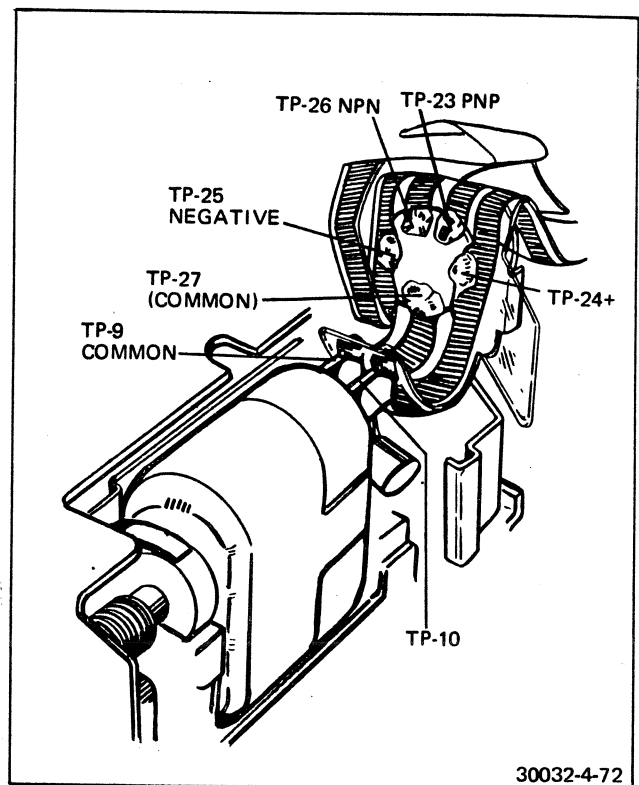

FIGURE 4-72 MCC TO MOTOR CONNECTIONS
14. Locate the flex circuit extension that reaches the two motor contacts, Figure 4-72. Using tweezers, press the flex circuit over the motor contacts until the contacts protrude through the flex circuit. If this step is performed correctly, the flex circuit will be held securely in place on the two motor contacts.
16. Locate the flex-circuit extension that reaches the two motor contacts, Figure 4-72. Using tweezers, press the flex circuit over the motor contacts until the contacts protrude through the flex circuit. If this step is performed correctly, the flex circuit will be held securely in place on the two motor contacts.